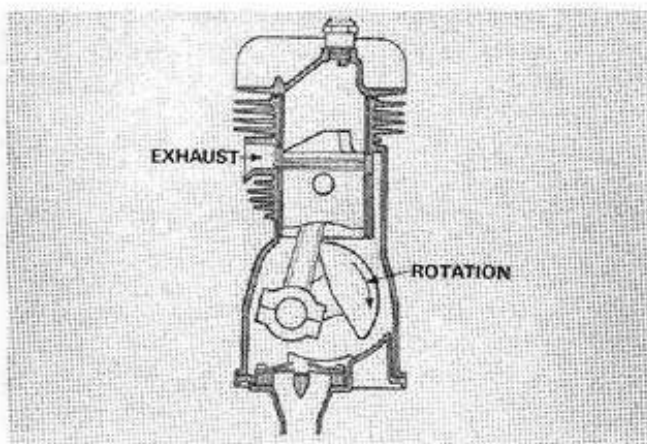

Figure 77. Piston and Rod Installation.
- a. Insert the assembled piston and rod into the cylinder from the top. The ring compressor shown in Section V — Service Data must be used to compress the rings for insertion. The piston must be positioned with the exhaust side on the same side as the exhaust ports of the cylinder. (See Figure 77.) Position the two ring end gaps on opposite sides of the piston, taking care not to line them up with the intake or exhaust ports.